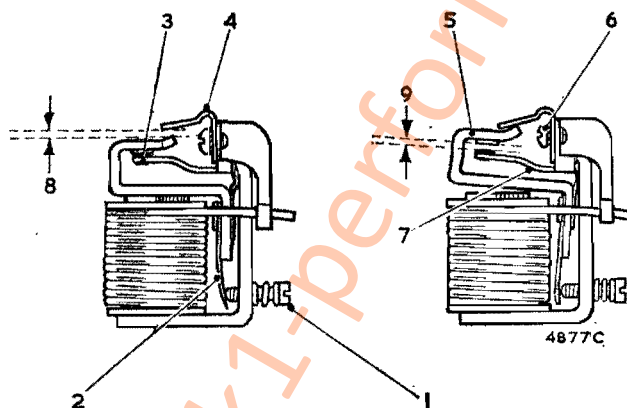

Fig. N.9
Similarly, the fixed contact blade must be bent so that when the armature is pressed **squarely** down against the core face there is a 'follow through' of blade deflection of .010 to .020 in. (.254 to .508 mm.). See (3) (Fig. N.9).